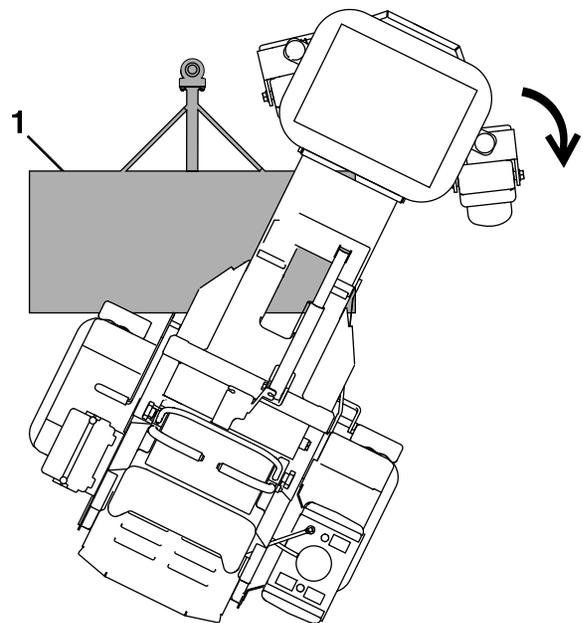

Figure 5
6. Position yourself back on the traction unit. Drive away from the accessory head (reference Figure 5) by turning the front of the traction unit in either direction.